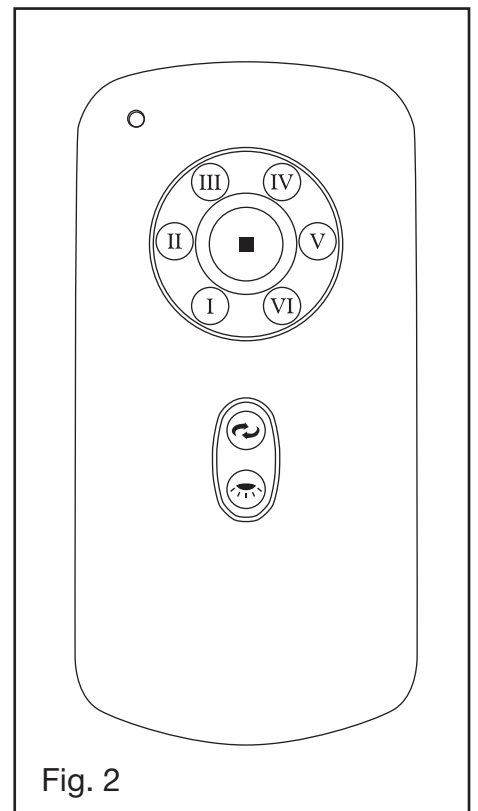

Fig. 2
3. Fasten blade assembly to motor with provided screws and lock lockwashers. Repeat procedure for remaining blades (Fig. 2). Make sure screws are **TIGHT!** Loose motor screws can contribute to unnecessary hum during operation.
Remove the screws and take out the glass board from the light cover (Fig. 2), then attach the metal cover to the light cover B and light cover A with the screws provided. (Fig. 3)
An UPWARD airflow moves warmer air off the ceiling area as shown in Figure 2. This allows you to set your heating unit on a cooler setting without affecting your comfort.